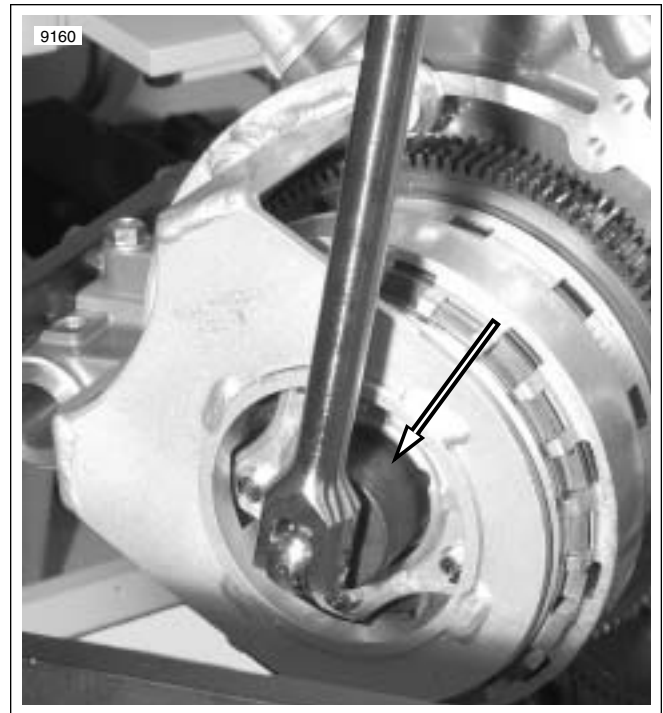

Figure 3-81. Remove Clutch Hub Nut
11. See Figure 3-81. Remove clutch hub nut.